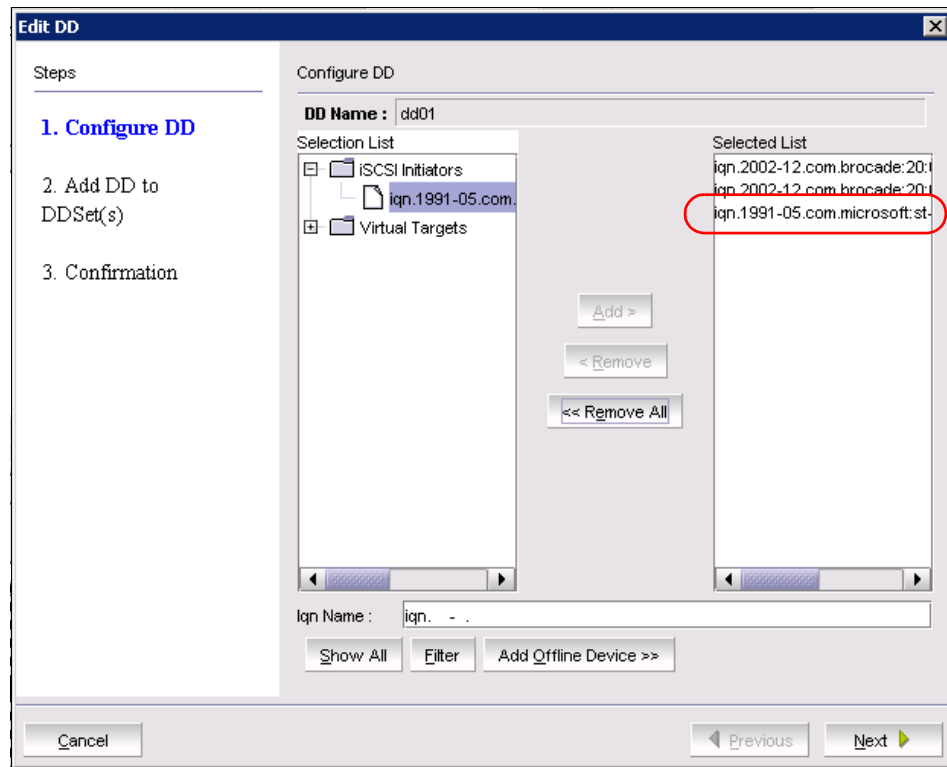

Figure 11-50 Add Initiator
8. Add the initiator to the Selected List by highlighting it and clicking **Add**, as in Figure 11-50.